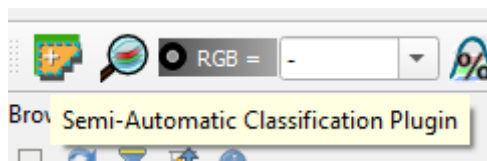

Figure 5. Opening SCP Dock.
- 2) Activate SCP toolbars, if needed (Menu *View – Toolbars*), see Figure 5.